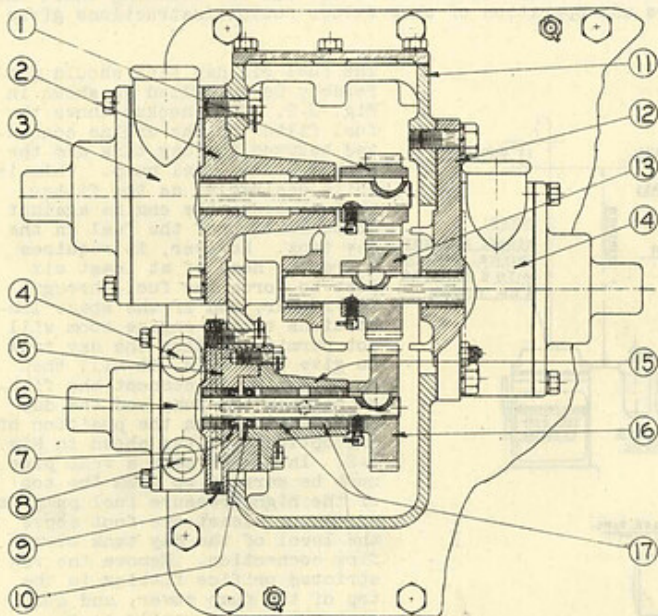

FIG. N-1
end of the centerframe, delivers a continuous supply of fuel to the engine from the main storage tank. It is a rotary type gear pump, identical in construction (but smaller in size) with the lubricating oil pumps described in Section S. The description will not be repeated here, nor the instructions regarding direction of rotation, which apply equally well to the transfer pump. (On direct reversible marine engines the rotary gear type fuel transfer pump is reversible. Consequently fuel is delivered from the same port irrespective of direction of rotation.) The fuel transfer pump drive is shown on Fig. N-1. Transfer pump (6) is mounted in adapter (5) which is bolted and doweled to housing (11). If the adapter is replaced it must be positioned for .004" to .005" gear backlash before doweled. A cylindrical fit between pump and adapter permits replacement of the pump without disturbing the drive gear setting. The pump shaft and rotor is
The bushing in the adapter is lubricated by fuel oil from the pump, and the two in the bearing by lubricating oil, fed through drilled holes in the castings from a lubricating oil line connecting into the adapter. Oil seals (7) and (10) prevent contamination of the lubricating oil by the fuel oil and if replaced must be installed as shown, that is with the leather ends together and flush with the ends of the bores. Some engine models are equipped with one rotary type seal instead of the two seals shown in Fig. N-1. This type of seal rotates with the pump shaft and seals against the specially prepared faces of the adjacent bushings. Fuel leakage past the seal is drained off through connection (9), which should be piped back to the fuel tank. Under no circumstances should this opening be plugged, or the fuel will drain into the lubricating oil in the crankcase. Drive gear (16) is secured to the shaft with a Woodruff key and setscrew, which should be securely wired, as should all the internal bolts in the assembly.